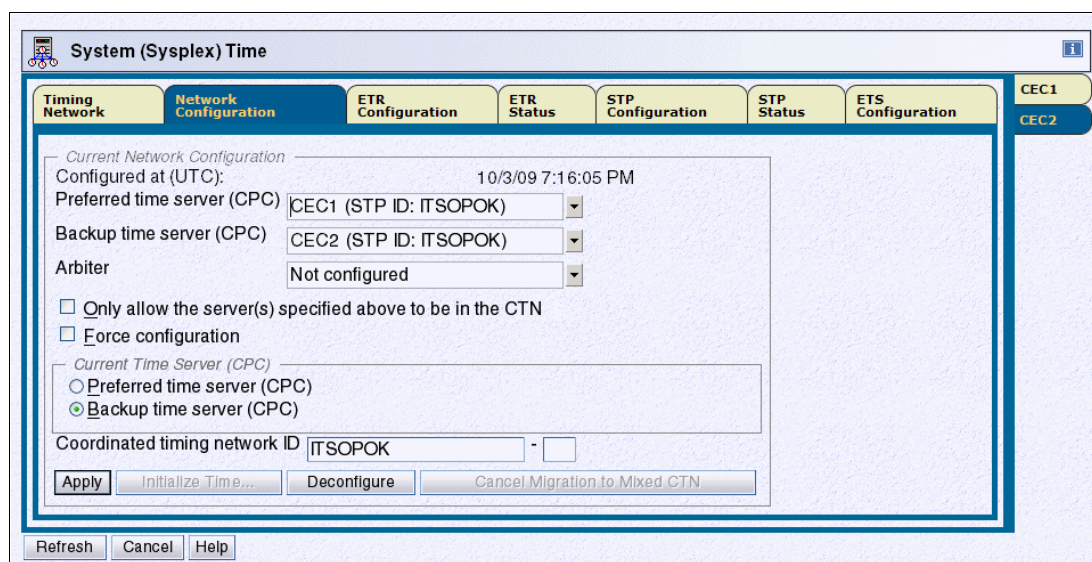

Figure 6-71 Network Configuration tab for CEC2
1. Select the **Network Configuration** tab for CEC2 to assign it as the new CTS (Figure 6-71).